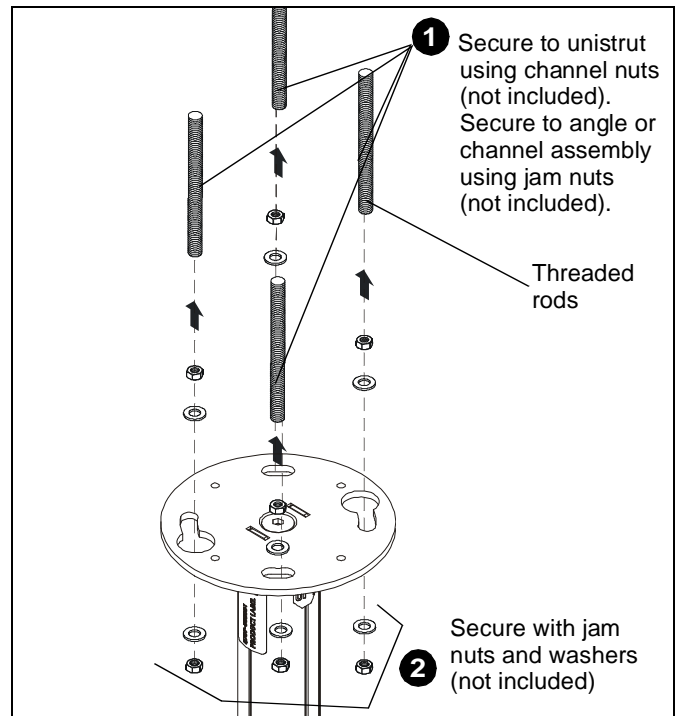

**Figure 6**
- Install two 5/16" x 2-3/4" (minimum) lag screws (not included) through holes on ceiling plate (A) and into holes drilled in wood stud cross bracing. (See Figure 6)
- Tighten all four lag screws to secure plate to ceiling. (See Figure 6)